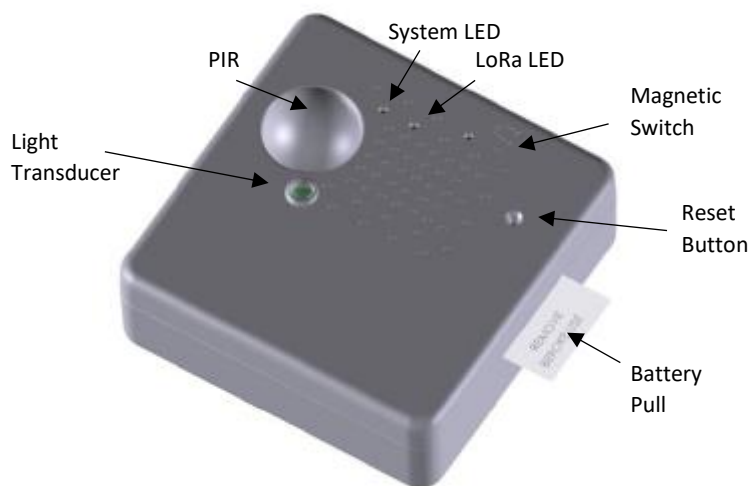

Figure 1.
Figure 1 illustrates the customer accessible interfaces for the Tektelic Sensor.
- a. Pull out the battery tab to engage the battery (see Battery Pull Tab in Figure 1)
See Figure 1 for the location and identification of the sensor LEDs.
There is a reset button on the device, that can be pushed by a pin, such as a paper clip (see Figure 1). The button should not be pushed hard. The reset is instant, i.e. the button does not need to be kept pushed. The reset restarts the microprocessor. All the FW load and configuration parameters in the Flash are remembered during the reset.